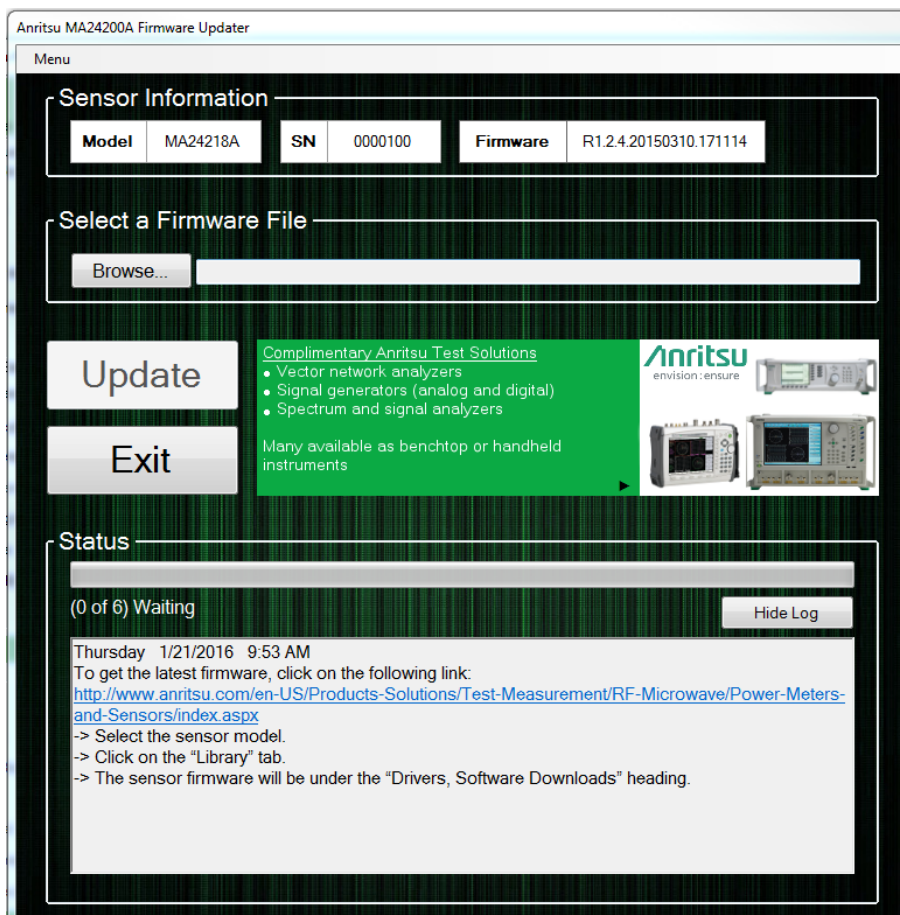

Figure C-3. Firmware Update Screen
3. Select Browse on the Firmware Updater Screen. Refer to Figure C-3.